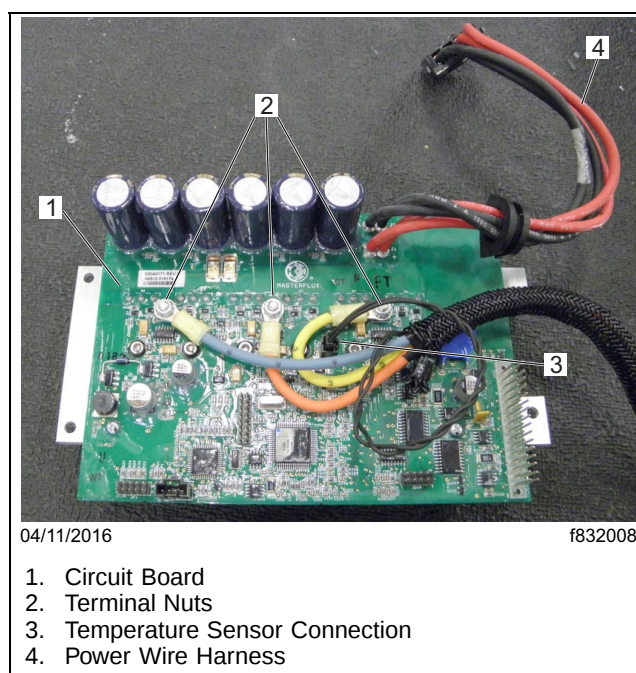

Fig. 13, Circuit Board Wiring
- 13. Remove the terminal nuts, and disconnect the three phase-wires from the circuit board terminals. See **Fig. 13**.
17. Connect the three phase-wires of the new harness to the circuit board terminals as shown in **Fig. 13**. Install the blue wire on the left terminal, the orange wire on the middle terminal, and the yellow wire on the right terminal. Carefully tighten the nuts 10 to 14 lbf·in (113 to 158 N·cm). Do not over tighten or under tighten.